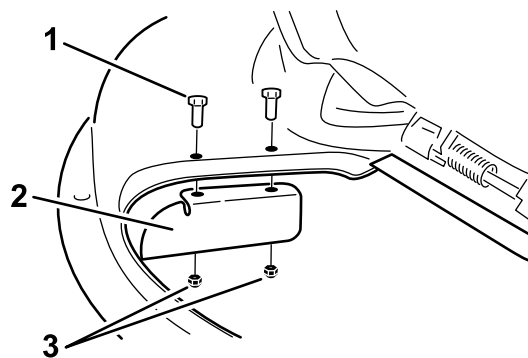

Figure 20
Note: Certain models will have the cutoff baffle installed (Figure 20). Proceed to the next procedure if a cutoff baffle is installed.
1. Install the cutoff baffle to the mower deck with two bolts (5/16 x 3/4 inch) and two lock nuts (5/16 inch) (Figure 20).